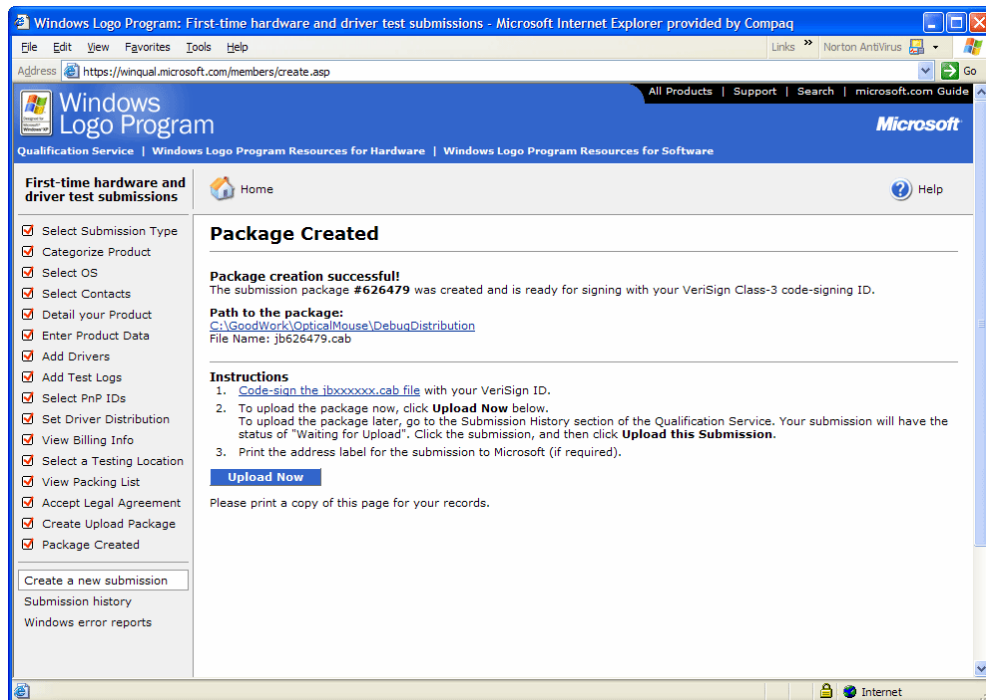

Figure 15-27. Ready to sign and submit.
- Ta-da! (See Figure 15-27). You're done. You can digitally sign your submission package and upload it to WHQL. This is where I had to stop. Not only did I have a submission package with fatal omissions in it, but also I didn't have (and didn't want to go to the considerable trouble of obtaining) a VeriSign ID. If I get much more stubborn and independent, I'll have to move to a cabin in Idaho and use the Internet with a dial-up modem the way our pioneer forebeings did.